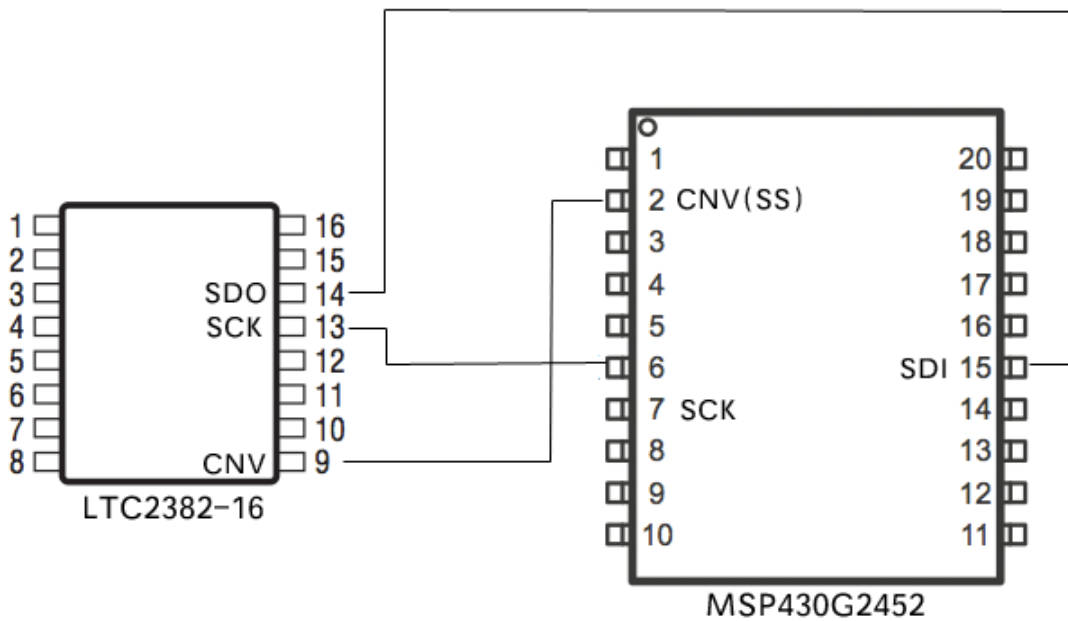

Figure 6: pin connections between ADC and MUC for SPI communication
Figure 6 shows the pin connections between MCU and ADC. The ADC works in Normal Mode, and as a slave. MCU is configured as a master and provides clock signal as well as control signal(SS) to the ADC. As a result, ADC sends back converted data from its SDO pin to SDI pin of MCU.